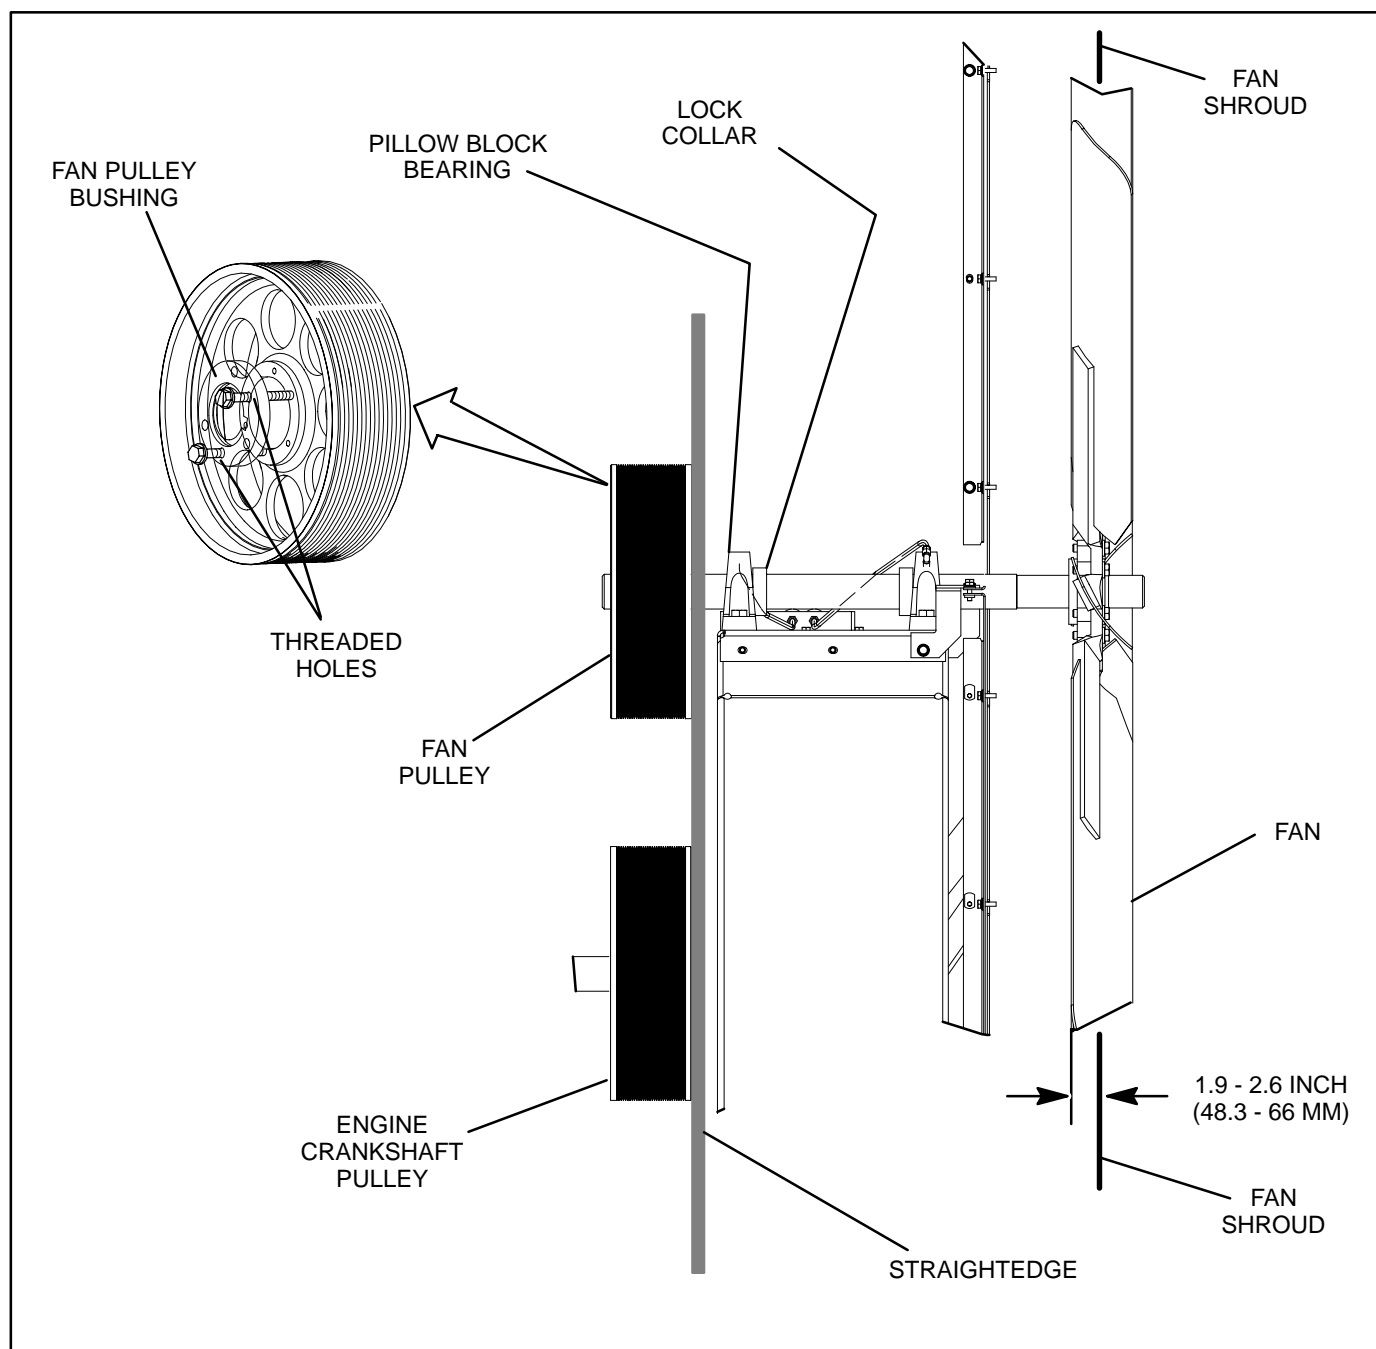

FIGURE 9-2. FAN DRIVE PULLEY ALIGNMENT
the crankshaft pulley to the fan drive pulley. The straightedge should be flat against the vertical surfaces of both pulleys near to their shafts. See Figure 9-2. There should be no visible gaps between the straightedge and the pulley surfaces. If there is, the fan drive must be aligned with the crankshaft pulley.
- C. Remove the three screws from the fan pulley bushing and install two of these screws into the two threaded holes of this bushing (Figure 9-2). Tighten the two screws sequentially to separate bushing from pulley and remove the two screws.
- A. Loosen the pillow block bearing mounting bolts. See Figure 9-2.
During this adjustment, make sure that the fan and fan shroud measurement in Figure 9-2 is maintained.